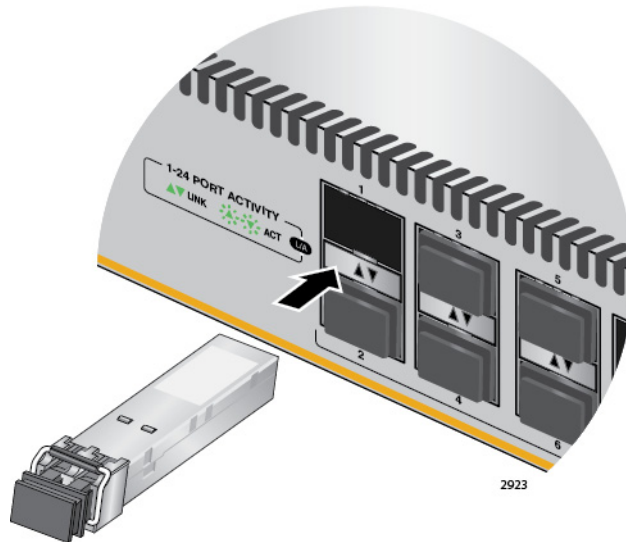

Figure 68. Installing an SFP Transceiver
4. Slide the transceiver into the slot until it clicks into place, as shown in Figure 68 on page 122.